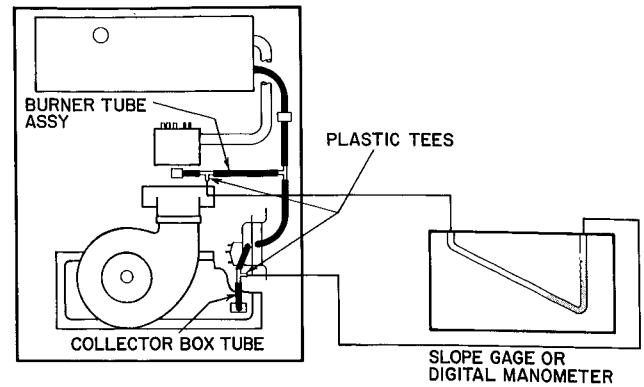

Fig. 6 — Tuning Valve Adjustment
1. Install field-supplied plastic tee between pressure tap on bottom of gas valve and pressure tube as shown in Fig. 6.
2. Install second field-supplied plastic tee between pressure switch and pressure tube from collector box. See Fig. 6.
3. Connect slope gage to tees (Fig. 6)